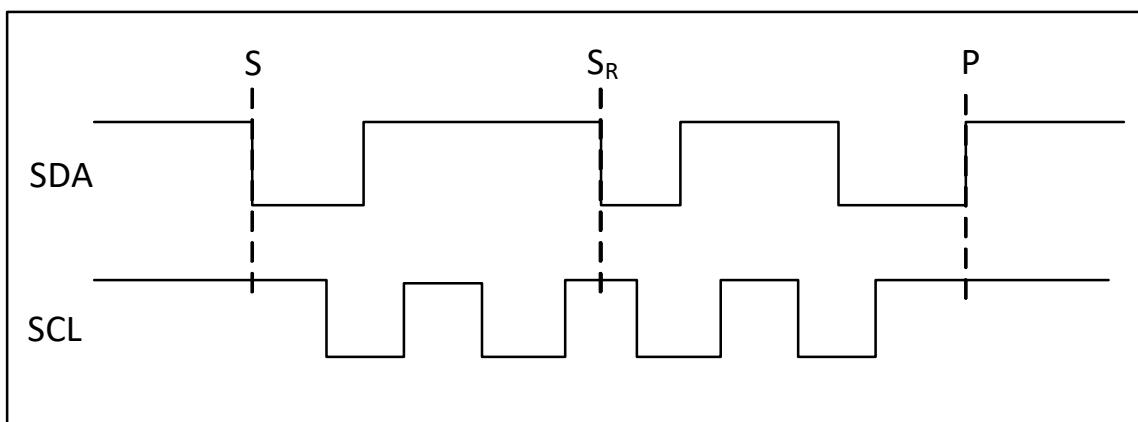
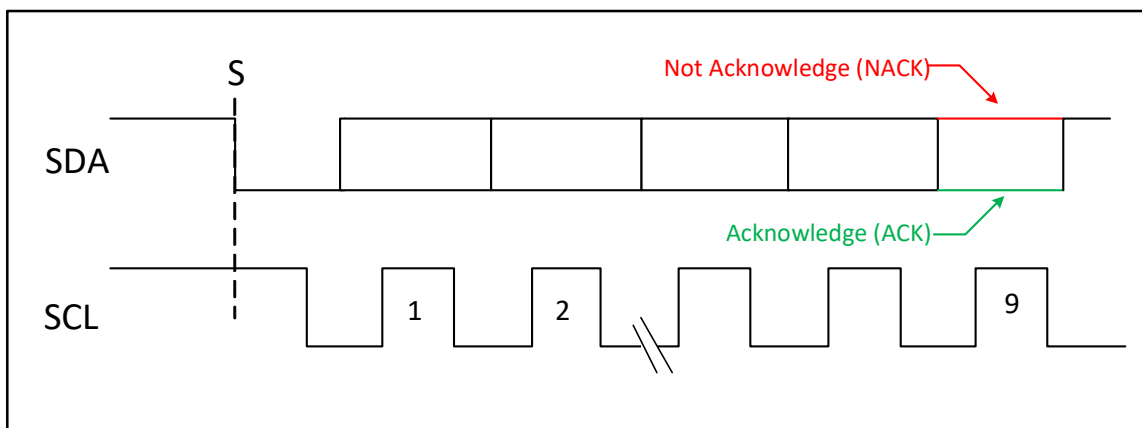

Figure 8. Start and Stop Conditions
Figure 9. Acknowledge Cycle
The I²C/SMBus serial port is a two-wire serial bus where data line SDA is bidirectional and clock line SCL is unidirectional. Reads and writes to this interface by the master are byte-oriented, with the I²C/SMBus master controlling the serial data rates up to 240 kbps. The SDA and SCL lines must be pulled high through pull-up resistors of 5 k Ω or less. An Si8901 ADC read transaction begins with a START condition (“S” or Repeated START condition “SR”), which is defined as a high-to-low transition on SDA while SCL is high (Figure 8). The master terminates a transmission with a STOP condition (P), defined as a low-to-high transition on SDA while SCL is high. The data on SDA must remain stable during the high period of the SCL clock pulse because such changes in either line will be interpreted as a control command (e.g., S, P SR). SDA and SCL idle in the high state when the bus is not busy. Acknowledge bits (Figure 9) provide detection of successful data transfers, whereas unsuccessful transfers conclude with a not-acknowledge bit (NACK). Both the master and the Si8901 generate ACK and NACK bits. An ACK bit is generated when the receiving device pulls SDA low before the rising edge of the acknowledged related (ninth) SCL pulse and maintains it low during the high period of the clock pulse. A NACK bit is generated when the receiver allows SDA to be pulled high before the rising edge of the acknowledged related SCL pulse and maintains it high during the high period of the clock pulse. An unsuccessful data transfer occurs if a receiving device is busy or if a system fault has occurred. In the event of an unsuccessful data transfer, the bus master attempts communication at a later time. Figure 10A shows the I²C Slave Address Byte and CNFG_0 byte for the Si8901. Figure 10B and Figure 10C show master/Si8901 ADC read transactions for Demand Mode and Burst Mode, respectively.